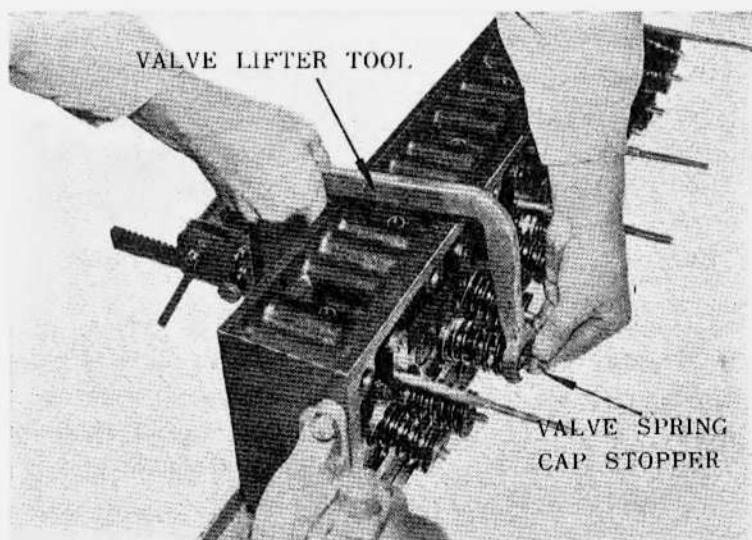

Figure 9—Valve Lifter Tool
(15) Disconnect oil delivery pipe from union bolt of block. Remove oil delivery pipe.
(16) Remove the cylinder head bolts, and then remove air cleaner bracket, two bond straps, cylinder head and gasket.
(17) Place cylinder head assembly on its side on a bench then, using valve lifter tool compress valve spring and remove cap stopper, valve stem oil seal, spring cap and spring. Repeat this operation on each valve (Fig. 9).
(18) Remove valves from cylinder head and keep them in their proper sequence for inspection and reassembly.